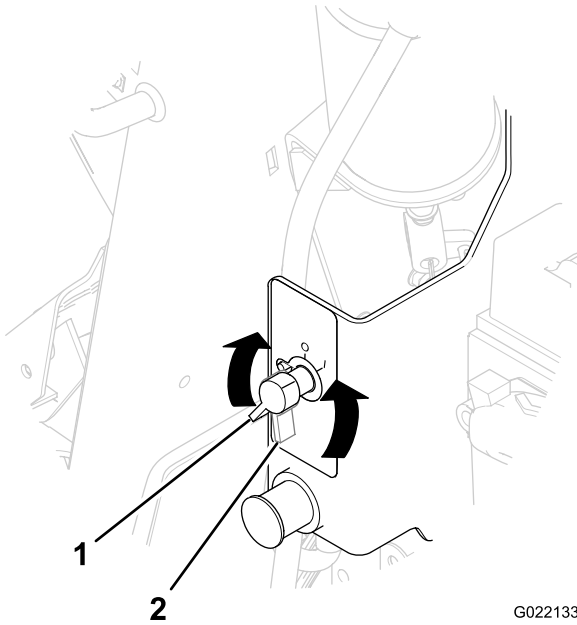

Figure 58
2. Rotate the battery-disconnect switch counterclockwise to the Off position (Figure 58).